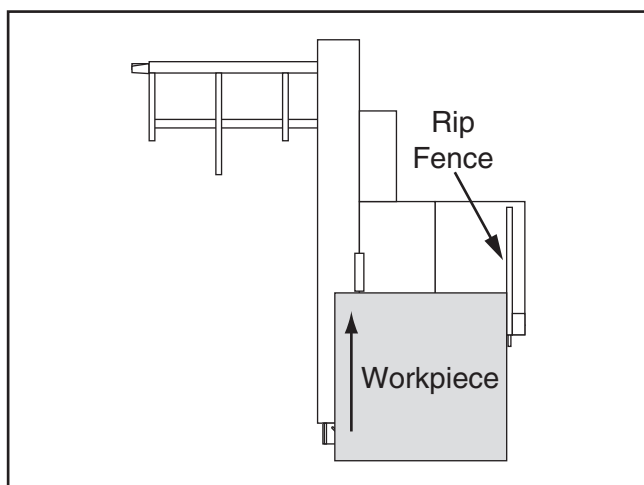

Figure 108. Traditional rip cut with rip fence.
This saw also has the capability of rip cutting smaller boards, using the machine as a traditional table saw (see **Figure 108**). Smaller, lighter boards are easier to slide across the stationary cast iron table surface to the right of the saw blade.
9. Load workpiece onto table saw. The setup should look similar to **Figure 108** on **Page 57**.